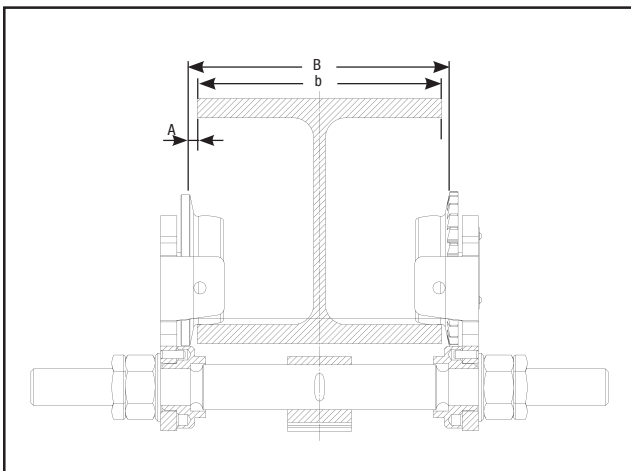

Figure 3 - Trolley Installed on I-Beam
1. Unscrew locking nuts (10) and hexagonal nuts (9) from the suspension bolt (1) and remove both side plates (2) from the trolley.
2. Measure flange width "b" of the track beam. See Figure 3.
3. Adjust or pre-adjust dimension "B" between the outer flanges of the round nuts (6) on the four free threaded ends of the suspension bolts (1). Make sure that the four drill holes in the round nuts face outwards. Select dimension "B" between the outer flanges of the round nuts on the suspension bolts in such a way that it corresponds to flange width "b" plus 4 mm. Ensure that the suspension bar (4) is centered between the round nuts (6).
4. Assembly of one side plate: The roll pins (7) fitted to the side plate (2) must be seated in one of the four drill holes of the round nuts (6). If necessary the position of the round nuts must be slightly re-adjusted.
5. Position the washer (8) and tighten the hexagonal nuts (9). Finally screw on the locking nuts (10) by hand and tighten by 1/4 to 1/2 rotation.
Measure the actual beam flange on which the trolley hoist is to operate and use Figure 3 to determine the arrangement of the spacer washers for that flange width.